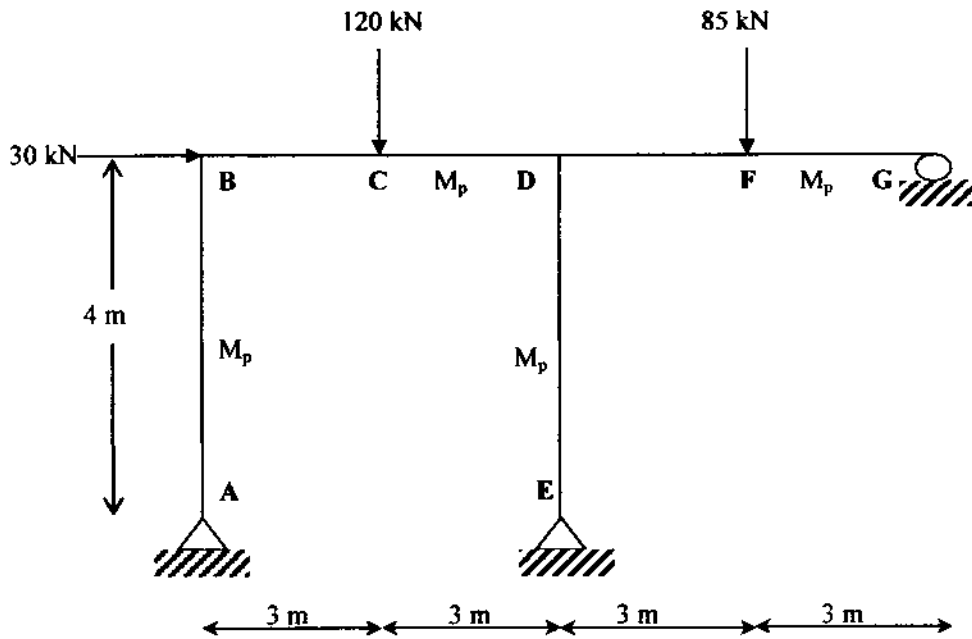

FIGURE Q5
- Q3** (a) Yield line theory was developed based on the upper bond limit which used to estimate the bending resistance of slab for reinforcement design. Discuss **Two (2)** reasons why yield line theory is safe to be used for under reinforced concrete slab. (6 marks)
- Q4** (a) List **Two (2)** advantages of using indeterminate structure (4 marks)
- Q5** (a) State five (5) assumptions in plastic analysis? (5 marks)
- (b) Figure Q5 showed a rigid jointed frame that has uniform member with the value M_p . If a point load of 120 kN and 85 kN are applied on midspan BD and DG respectively and horizontal load at Point B of 30 kN, determine the following: